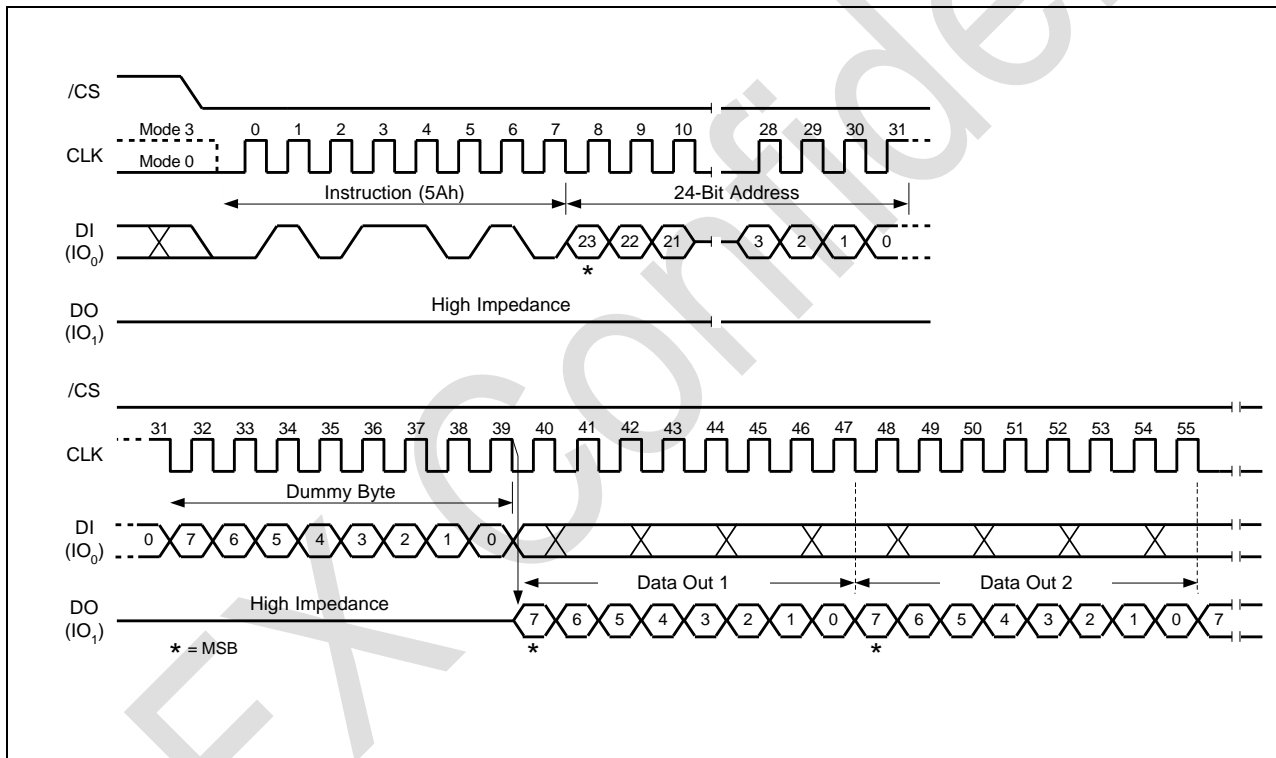

Figure 31. Read SFDP Register Instruction Sequence Diagram
The Read SFDP instruction is initiated by driving the /CS pin low and shifting the instruction code “5Ah” followed by a 24-bit address (A23-A0)(1) into the DI pin. Eight “dummy” clocks are also required before the SFDP register contents are shifted out on the falling edge of the 40th CLK with most significant bit (MSB) first as shown in Figure 31. For SFDP register values and descriptions, please refer to the